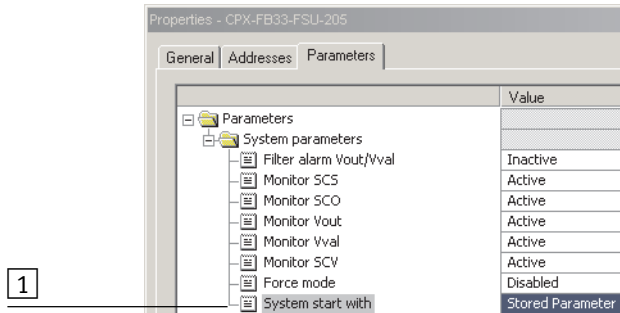

Fig. 2/13: System start in the operating mode FSU – “System Start with Saved Parameters” (“Saved” or “Stored Parameters”)
- in the system parameters of the control software (e.g. Siemens STEP 7, see 1 in Fig. 2/13).